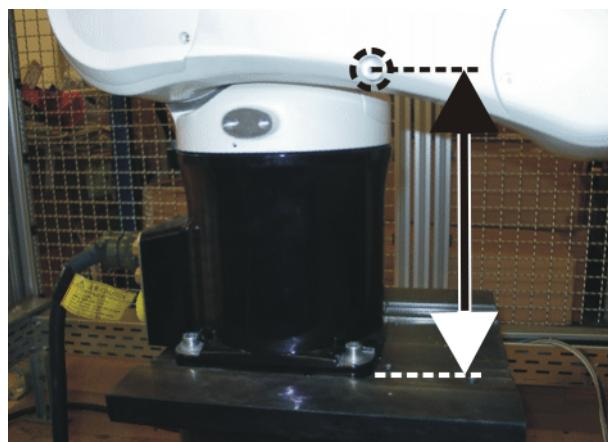

Fig. 11-13: Pre-mastering position A2
- Move A2 into the following position: the distance (measured vertically) between the center of the screw and the lower edge of the base must be **263 mm** (>>> Fig. 11-13).